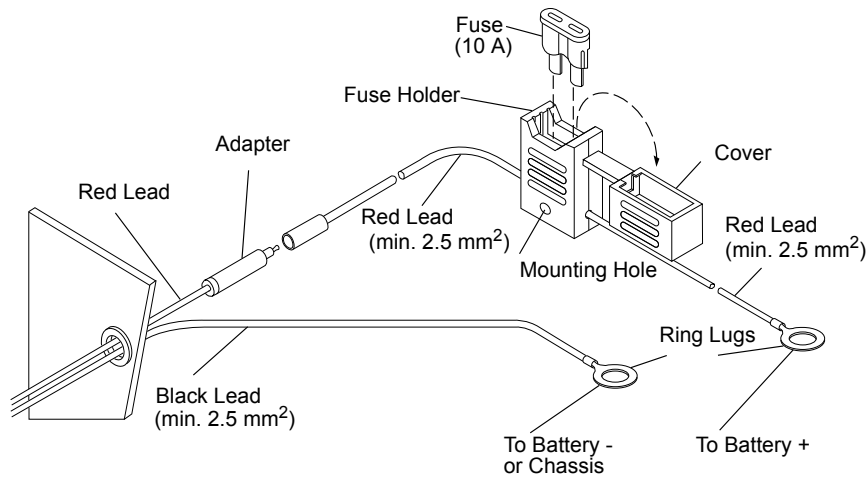

Figure 2 Power Cable Assembly
4. Connect the black lead of the DC power cable to the nearest vehicle chassis ground point (using the provided ring lug if necessary). Shorten the black lead to remove any excess cable. (see Figure 2).